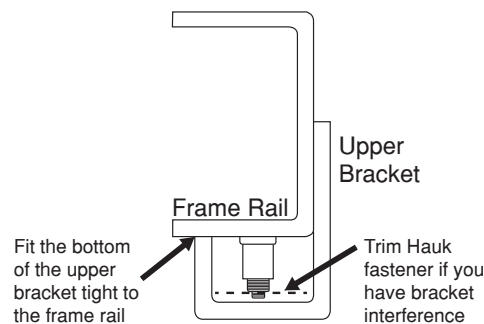

fig. 9
3. Some models have existing holes in the frame that the upper bracket lines up to for mounting. If you have existing holes in the frame, align the slot in the upper bracket with the hole in the frame and attach the upper bracket with one 1/2" bolt (L), one 1/2" flat washer (O) through the upper bracket and frame, cap with a 1/2" flat washer (O) and 1/2" nyloc nut (N) (fig. 1). Note: make sure that the flange on the upper bracket is setting against the frame (fig. 9). Torque 1/2" hardware to 90ftlbs.